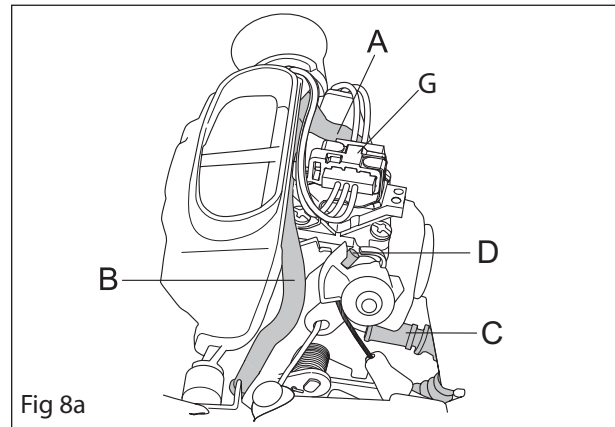

Fig 8a
2. Disconnect the contact to the Autotune unit and the stop wiring contact (G). See figure 8a.
5. Loosen the pressure hose (A), return hose and tankvent hose (B). See figure 8a.
7. Remove the fuel hose (C). See figure 8a.
8. Unhook the throttle cable (D). See figure 8a.